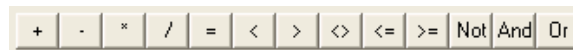

Figure 63 - Operators Buttons
12. The **Operators** buttons (Figure 63) allow you to enter an operation descriptor based on the selected button.